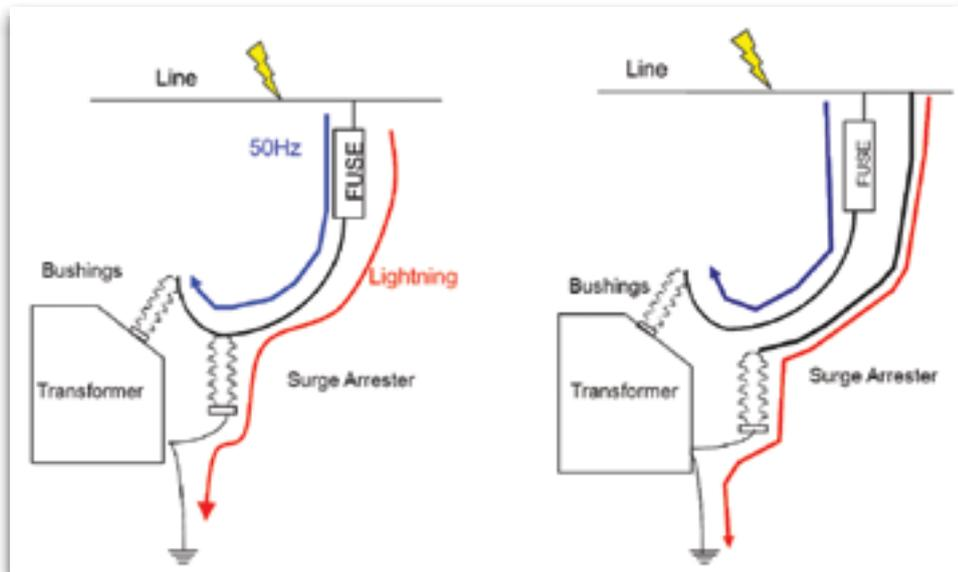

Figure 5 (A) Standard pole mounted transformer configuration and (B) Combi unit configuration
In the standard configuration, the MV fuses are exposed to lightning as it is installed line side of the surge arrester. The surge arrester only protecting the MV transformer as illustrated in Figure 5 (A) Therefore an alternative configuration was proposed where the surge arrester is connected across the fuse and transformer to provide lightning protection to both, as can be seen in Figure 5 (B).